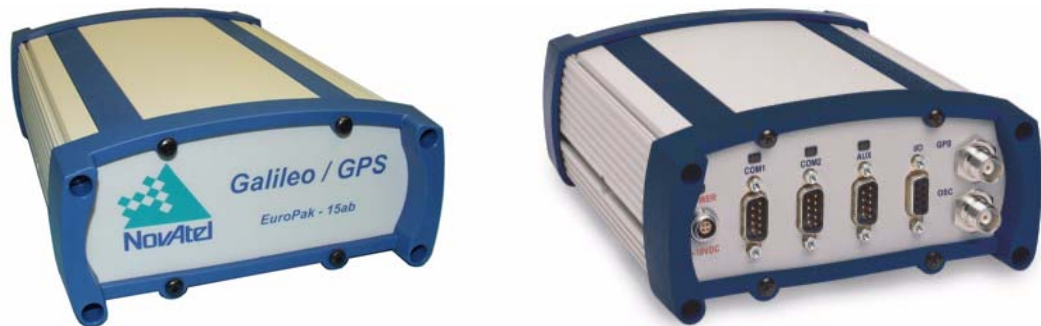

Figure 2: EuroPak-15ab Enclosure
- ☒ The port labelled COM2 on the back of the receiver, see *Figure 2* above, connects to COM3 of the internal Euro-L1E5a card.
The BNC external oscillator port, labelled OSC, is used for input signals on the EuroPak-15ab. See *Figure 2* on *Page 23*.